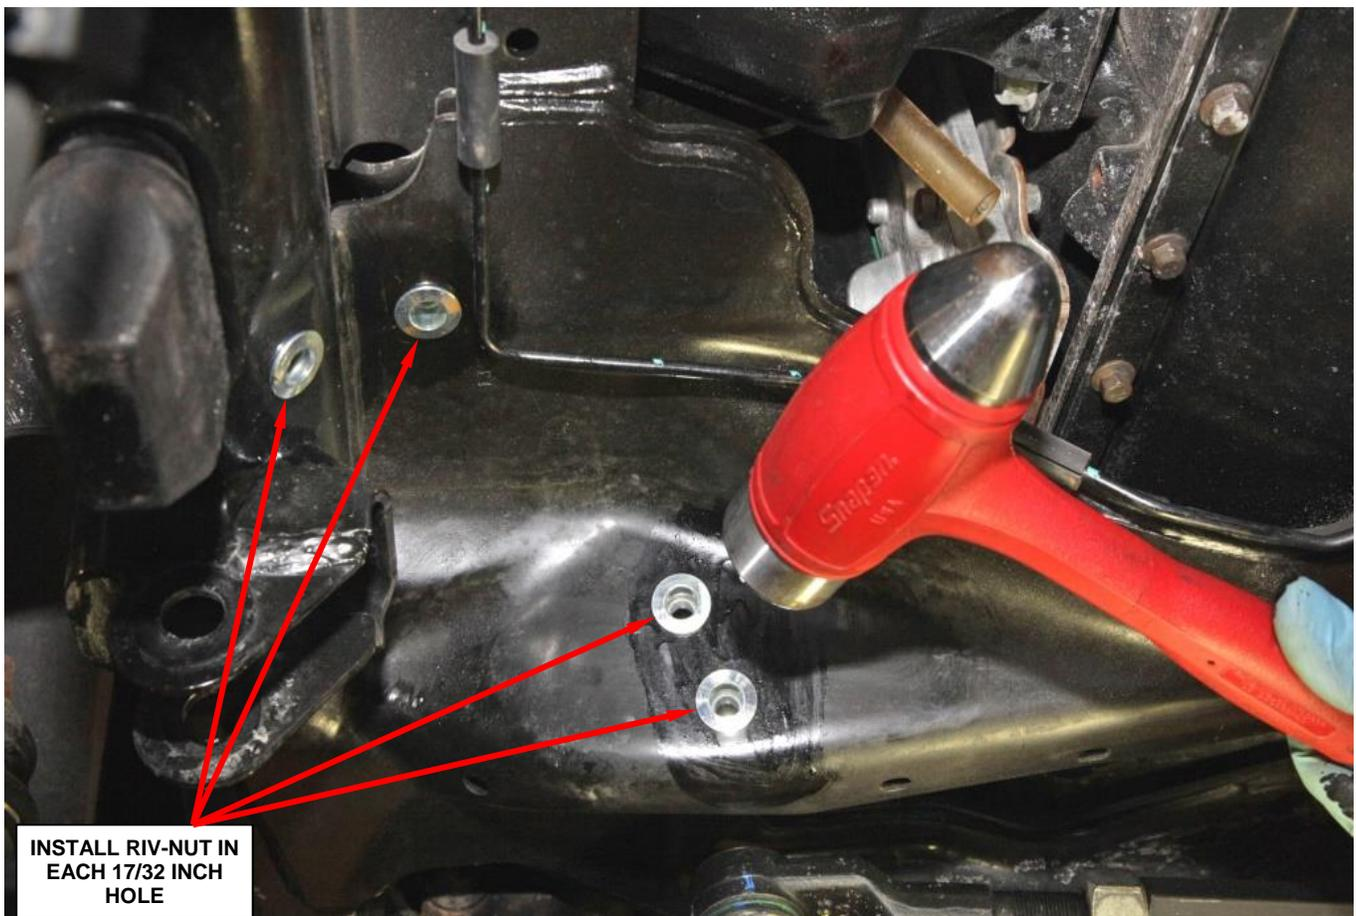

Figure 40 – Install One Riv-Nut in each 17/32 Inch Hole
27. Using a small hammer, tap a riv-nut into each of the 17/32 inch diameter holes (Figure 40).